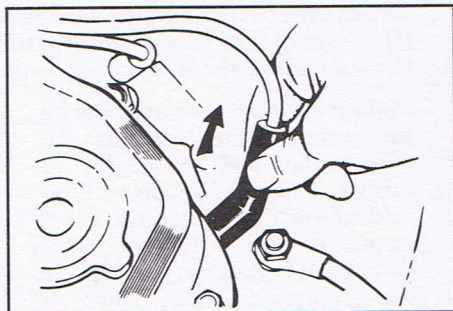

Figure 1 - Removing spark plug wire
2. Remove the first spark plug wire by pulling on the boot, not on the wire itself. (If the spark plug boot is stuck to the spark plug, a slight twisting motion on the boot will assist in breaking loose the boot.) See Figure 1.